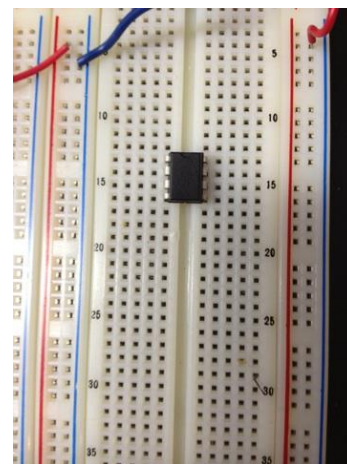

Figure 6b: Your installed op amp should look like this
- Straddle the center of the op amp across one of the vertical breaks in your breadboard with the notch pointing up (away from you, see Figure 6b)